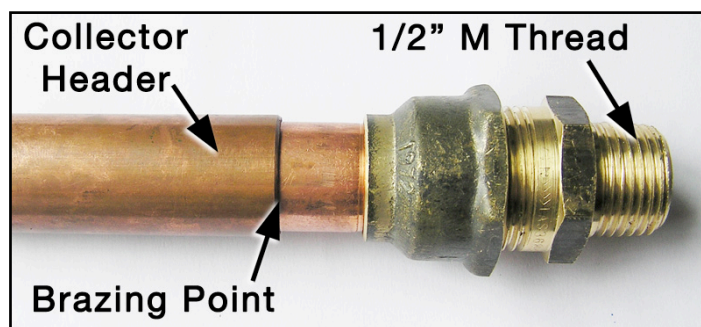

Fig. 6
- The new copper adapter which provides a standard flared brass fitting. This connector is inserted into the end of the header and brazed into place. Take care not to expose the manifold to direct flame. A wet rag around the base of the copper header pipe should be used to protect the manifold against the flame, and reduce heat transfer. See figure 6 for details. This union provides a male 1/2" thread onto which a female union elbow should be screwed.